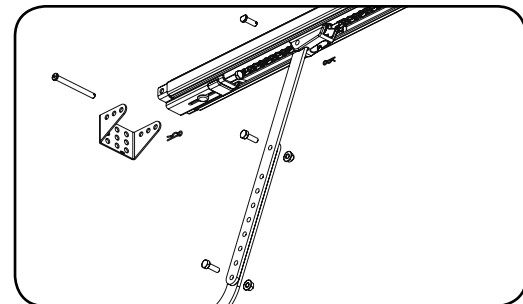

Fig. 12
- Attach the C-Rail assembly to the wall bracket with the 90mm long clevis pin and secure with the supplied snap pin (**Fig. 12**).